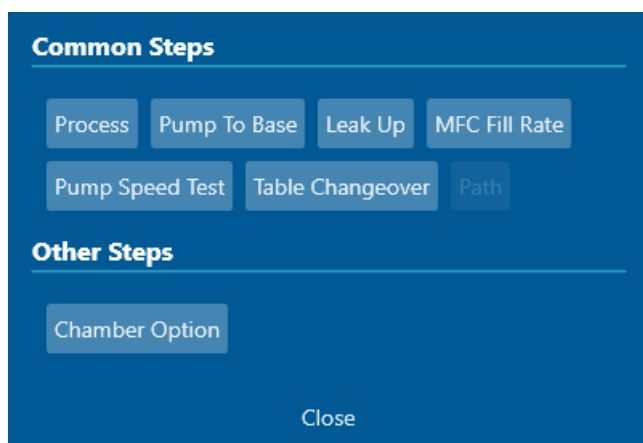

Figure 5-13 Add step menu
- 5 Select the first step from the menu (see Figure 5-13); the first step in a process is normally **Pump To base**.
- c) In the Add step menu (see Figure 5-13) select the type of step required. It will be inserted above the current step.
- c) In the Add step menu (see Figure 5-13) select the type of step required. It will be inserted below the current step.